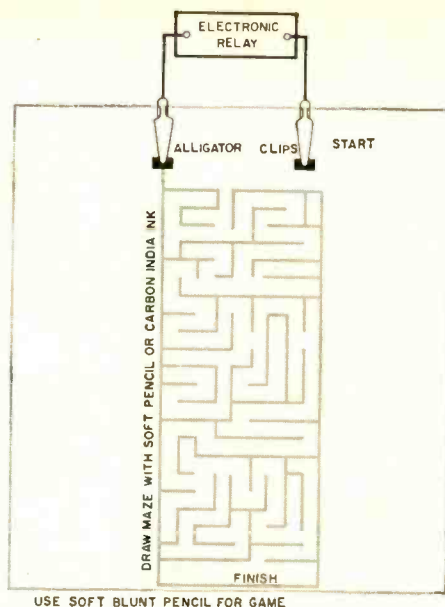

Fig. 5. The electronic relay is used to play games too. If any of the walls or lines in this maze are touched by the player, then the alarm will be set off.
**Game:** A very interesting game of skill may be made by drawing a maze on a piece of paper, using a soft pencil or carbon India ink. See Fig. 5. Two square blocks are drawn on the paper to serve as contact terminals and these, in turn, are connected to the input ter-